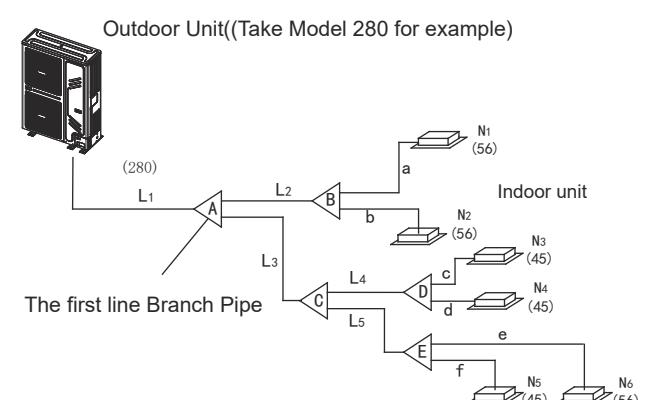

Fig.4-6
- Main pipe (Please refer to Fig.4-6 and Table 4-4)
In Fig.4-6, the main pipe L1, the outdoor unit capacity is 28kW, and check the Table 4-4 to get the size of gas pipe/liquid pipe is  $\Phi 22.2/\Phi 9.5$ , and also the total equivalent length of liquid side and gas side pipes is  $>90$ m, then check the Table 4-4 to get the size of gas pipe/liquid pipe is  $\Phi 25.4/\Phi 12.7$ , and according to the maximum value principle, it should apply the  $\Phi 25.4/\Phi 12.7$ .